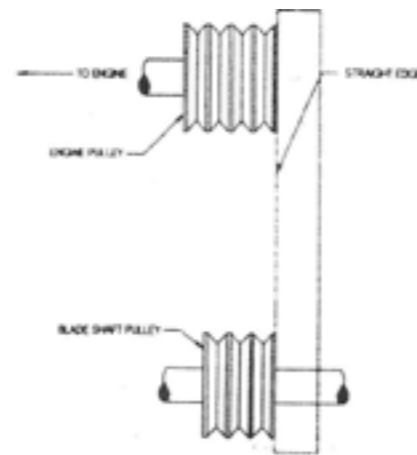

Figure 1
6. To check alignment, use a steel straight edge (see Figure 1).